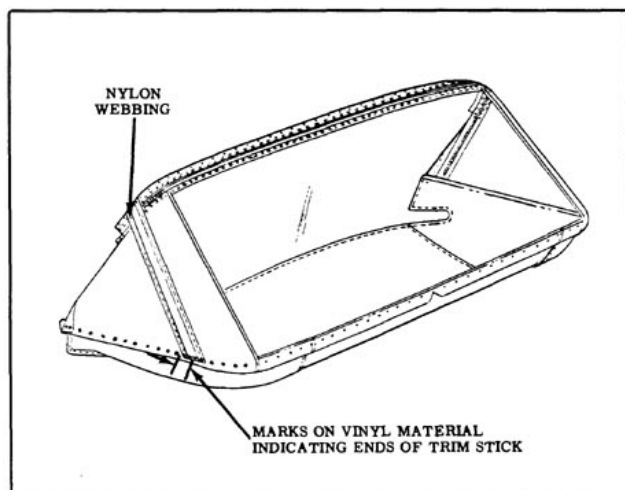

Fig. 16-133 Marking Back Curtain
18. Using chalk, or other suitable material, mark ends of rear and rear quarter trim sticks on vinyl surface of back curtain material. (Fig. 16-133) Reference marks for trim sticks should be transferred to new back curtain material when Step 6 of installation procedure is performed.
19. Remove right and left nylon webbing from rear trim stick. (Fig. 16-133)